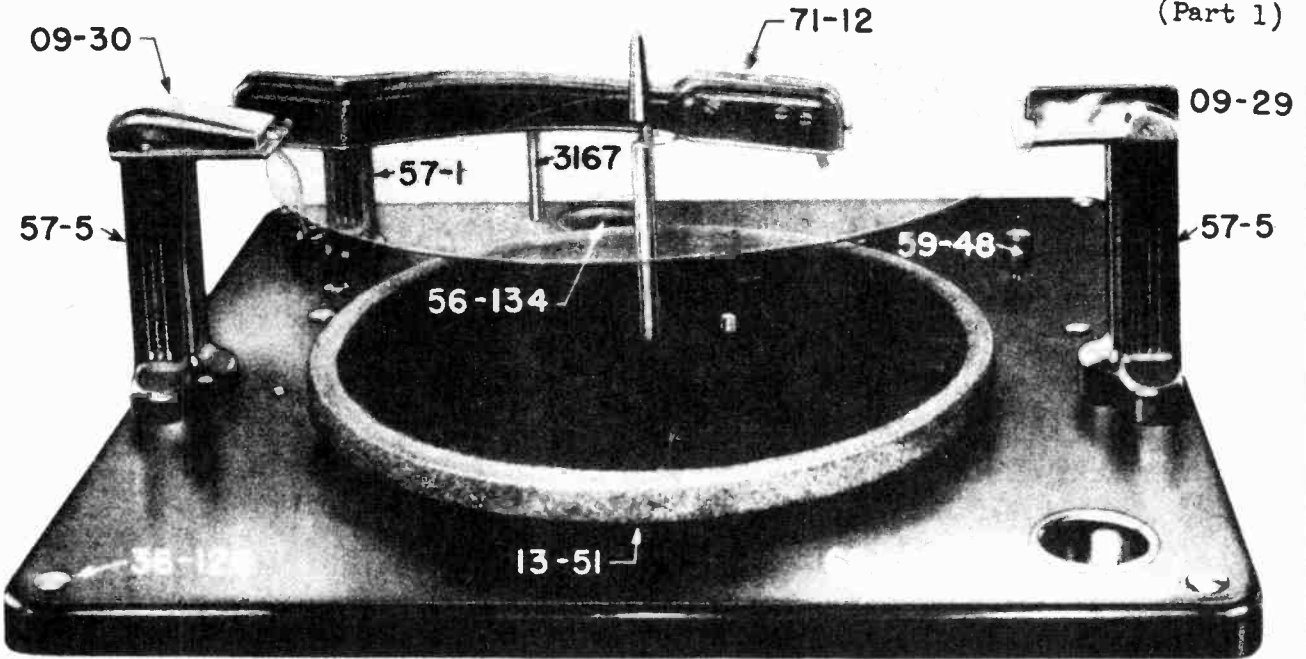
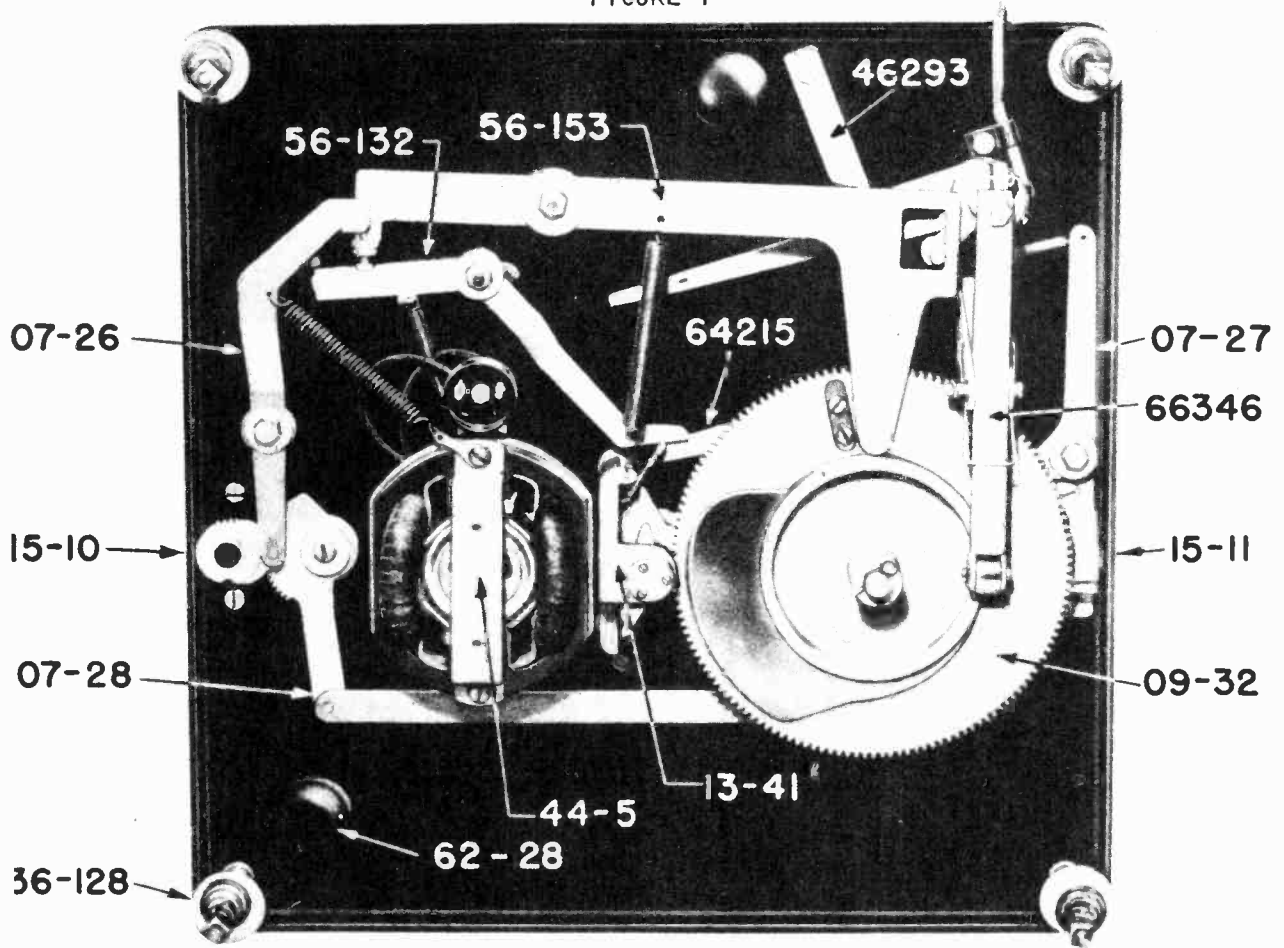
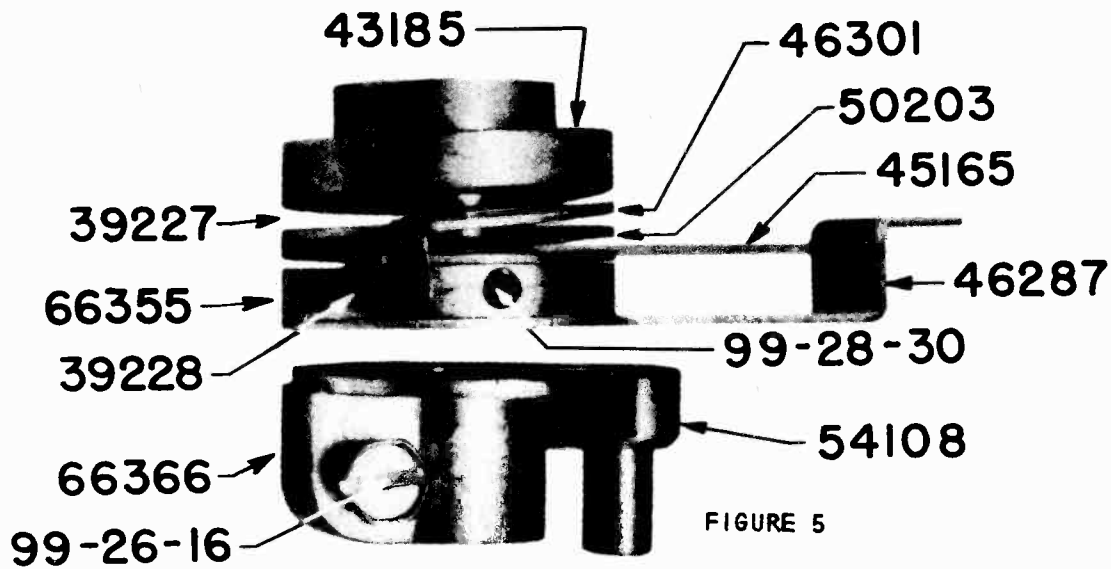
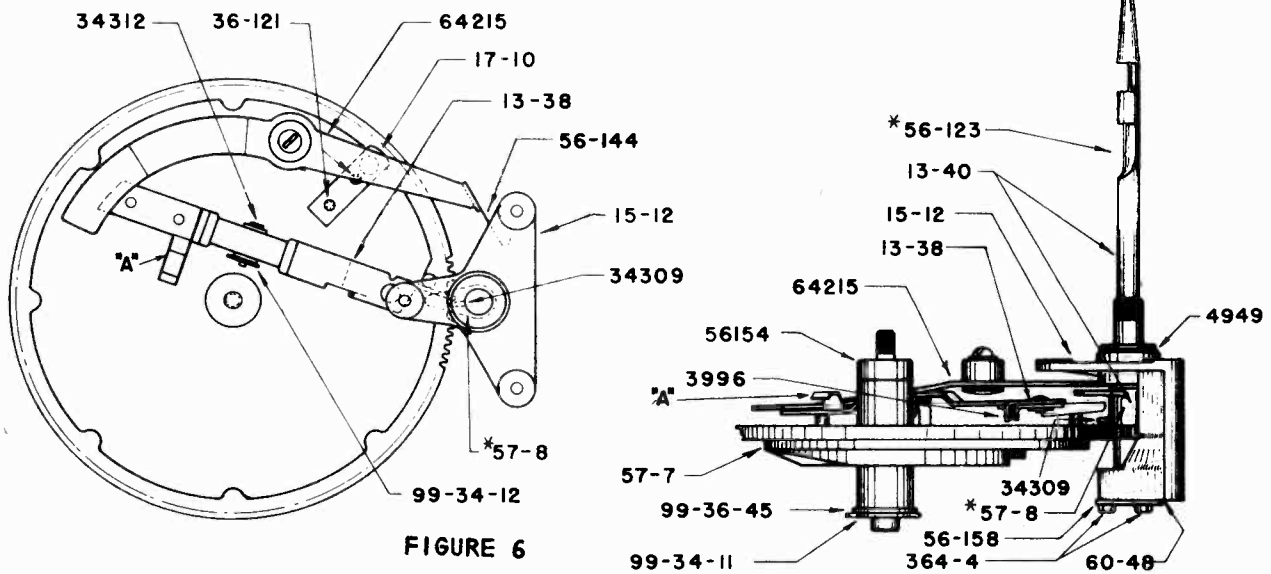

FIGURE 1
FIGURE 2
FIGURE 5
FIGURE 6
(Fig. 1)
The Turntable unscrews from the Record Spindle, 56-123 (Fig. 6) by rotating the Turntable counter clockwise. The Spindle Gear, 57-8 (Fig. 6) should be held by a screwdriver while unscrewing or while replacing the Turntable. Under no circumstances should you attempt to hold the Record Spindle in a pair of pliers when removing the Turntable. Care should be exercised while holding the Spindle Gear not to damage the teeth of the gear.
The center line of the record shelves should form a straight line passing through the center of the Record Spindle. They should be exactly $9\frac{21}{32}$ " apart when in the 10" position and equidistant from the spindle. The shelves may be lined up by loosening the set screws on the shelf locking Cam and Gear 15-10 or 15-11 (Fig. 2). After alignment tighten set screws.
AND 15-11 (Fig. 2)
The Front Record Shelf 09-29 (Fig. 1) should be lined up with the Record Spindle in the 10" position. The Shelf Locking Cam 15-10 (Fig. 2) is lined up with the center line of the Gear Sector assembly 07-28 (Fig. 2) and adjusted until the Locking Lever is properly seated in the Shelf Locking Cam 15-10. The set screws of the Cam and Gear assembly are then tightened.
The rear record shelf 09-30 (Fig. 1) should be lined up with the Spindle and in the 10" position. The Locking Lever Hex-Head mounting screw 36-114 may be loosened if the adjustment of the Locking Lever to the Cam and Gear Assembly need be changed.
12. STARTING PIN 34309 AND STARTING LEVER 13-38 (Fig. 6)
The Starting Pin 34309 (Fig. 6) is normally driven into the Spindle Gear 57-8 (Fig. 6) until the square end is flush and the pointed end projects about 1/8" and should engage the end of the Starting Lever 13-38 to allow the teeth of the Main Cam to mesh with the Spindle Gear without topping. Two adjustments are possible if the teeth do not engage properly, either drive the Starting Pin in further or bend the end of the Starting Lever.
10. ADJUSTMENT OF TONE ARM 71-12 (Fig. 1)
Adjustment -- Loosen Lock Nut 99-13-5. adjust Screw 99-26-17 parts of 66346 (Fig. 2) to secure proper clearance. Be sure Lock Nut is retightened.
11. TRIP MECHANISM - (Fig. 5)
The proper adjustment of the Trip Mechanism is, when the needle is 1-7/8" from the center of the record spindle, the Trip Finger 46287 (Fig 5) trips the Starting Lever Release Trip 07-31 (Fig. 6).
To adjust tension loosen Bristol Set Screw 99-28-30 in Upper Collar 43185 (Fig. 5). Turn collar counter clockwise to increase friction (if changer does not trip at end of record) and clockwise to decrease friction (if changer trips before the end of the record). There should never be any more friction than is necessary to move Starting Lever Release Trip 64215 (Fig. 6) off the end of the Starting Lever 13-38 (Fig. 6).
ADJUSTMENT OF MON TRIP CAM OF STARTING LEVER 13-38 (Fig. 6)
This Cam shown at "A" in (Fig. 6) should be adjusted so that when the machine is in the "Manual" position, the Starting Lever Release Trip 64215 (Fig. 6) will pass over the end of the Starting Lever 13-38 (Fig. 6) without touching. The front end of the Starting Lever must also clear the bottom of the Resetting Dog and the top of the Starting Pin both part of the Spindle Gear 57-8 (Fig. 6)
7. ADJUSTMENT OF TRIP PIN ASSEMBLY 17-10 (Fig. 6)
Both the 10" plunger 56-116 and the 12" plunger 56-117 (see 09-30 Fig. 1) should extend over the edge of the Record Shelves from .010" to .025". This distance may be changed by adjusting the Trip Pin Assembly 17-10 on the Main Cam. Care should be exercised to see that the Trip Pin assembly is not set over too far as it can bind on the plunger cam and jam the changer.
8. THE TRIP FINGER STOP 46293 (Fig. 2)
In 10" position, adjust the Tone Arm Crank 66366 (Fig. 5) so the needle lands 4-7/8" from center of the Record Spindle. To adjust have record changer in playing position, loosen Tone Arm Set Screw 99-26-16 (Fig. 5) set needle 4-7/8" from center of Record Spindle. Hold Tone Arm Crank firmly against Tone Arm Swing Lever 56-153 (Fig. 2) at the same time hold the Tone Arm Crank firmly up against the Trip Finger 46287 (Fig. 5). Tighten the Set Screw 99-26-16. There should be a small amount of play up and down in the tone arm. Next set the 12" drop. To adjust set the record shelves for 12" records and have record changer in playing position.